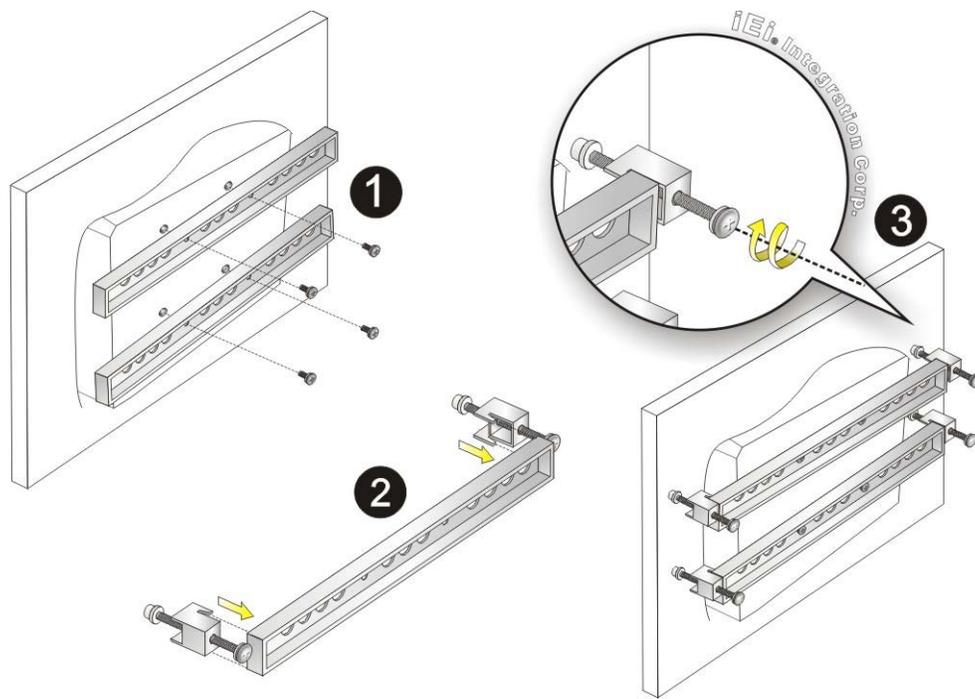

Figure 4-10: Panel Mounting
- Step 5:** Secure the two panel mounting brackets to the rear of the panel PC by inserting the four retention screws into the VESA mounting holes (**Figure 4-10 ①**).
- Step 6:** Insert the panel mounting clamps into the pre-formed holes along the two edges of the panel mounting brackets (**Figure 4-10 ②**). There are a total of 4 panel mounting clamps for AFL2-12A-HM65.
- Step 7:** Tighten the screws that pass through the panel mounting clamps until the plastic caps at the front of all the screws are firmly secured to the panel (**Figure 4-10 ③**).
- Step 3:** Secure the two rack mounting brackets to the rear of the panel PC by inserting the four retention screws into the VESA mounting holes (**Figure 4-10 ①**).
- Step 4:** Insert the rack mounting clamps into the pre-formed holes along the two edges of the rack mounting brackets (**Figure 4-10 ②**). There are a total of 4 rack mounting clamps for the AFL2-12A-HM65.
- Step 5:** Tighten the screws that pass through the rack mounting clamps until the plastic caps at the front of all the screws are firmly secured to the panel (**Figure 4-10 ③**).